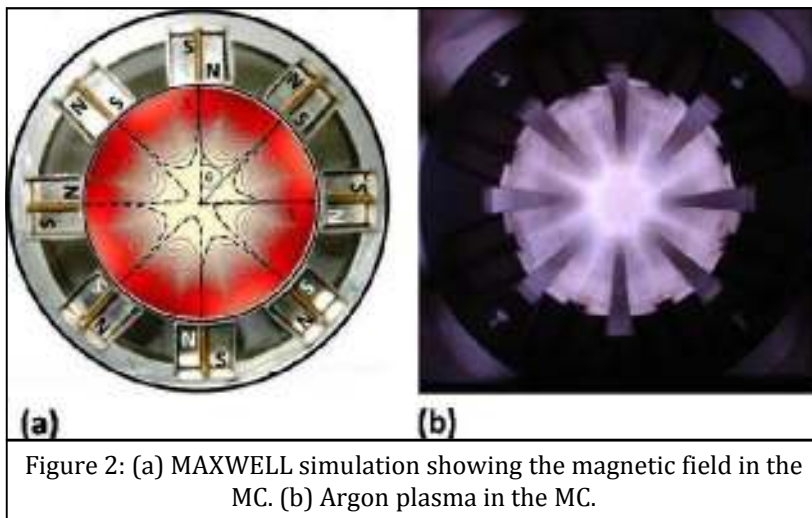

Figure 2: (a) MAXWELL simulation showing the magnetic field in the MC. (b) Argon plasma in the MC.
An eight-pole (octupole) magnetic multicusp (MC) of radius 42 mm and a surface magnetic field of 0.4 Tesla, is placed coaxially inside the VC. A thin stainless steel cylindrical shell is inserted inside the MC to provide a continuous conducting boundary condition. A MAXWELL simulation showing the magnetic field profile superimposed on a picture of the octupole arrangement is given in Fig. 2 (a). A radial plot
becomes equal to the wave frequency, thereby leading to a maximum transfer of wave power to the electrons, which are accelerated to large energies, which enhances the process of plasma formation. As the plasma is created, the magnetic well like structure helps to confine the plasma along the central axis of the plasma by mirror and cusp actions. A digital snap of the plasma confined in the MC is shown in Fig. 2 (b). Thus, a radially inhomogeneous, high density plasma is generated in the multicusp in the presence of a radially increasing magnetic field.